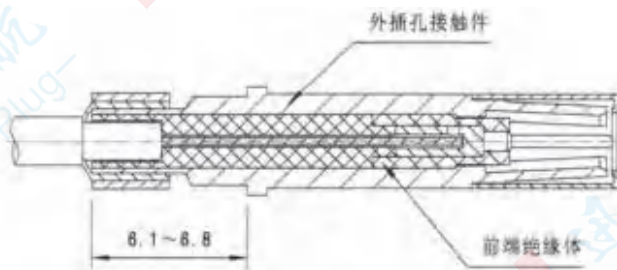

图22
③ As shown in Figure 22, proceed as follows: